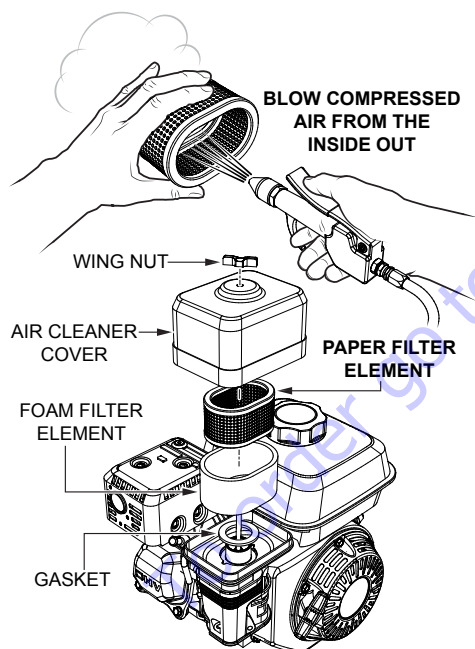

Figure 32. Engine Air Cleaner
1. Remove the air cleaner cover and foam filter element as shown in Figure 32.
2. Tap the paper filter element (Figure 32) several times on a hard surface to remove dirt, or blow compressed air not exceeding 30 psi (207 kPa, 2.1 kgf/cm²) through the filter element from the air cleaner case side. **NEVER** brush off dirt. Brushing will force dirt into the fibers. Replace the paper filter element if it is excessively dirty.